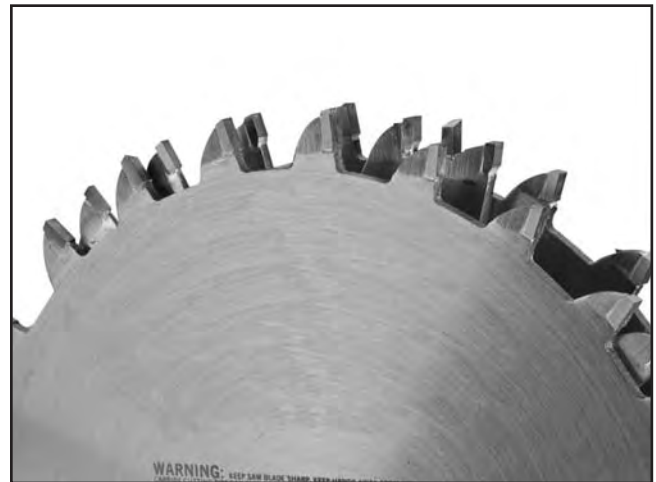

Figure 43. Stacked dado blade.
- **Stacked Dado Blade:** These dedicated dado cutting blade sets consist of up to 8 individual blades. Multiple cutters are "stacked" between two outside blades. The width of the dado is determined by the combination of cutters that are "stacked" together. The dado is cut in a single pass leaving a smooth and square channel in the face of the workpiece. Stacked dado blades are the most expensive option, but are worth considering if your projects require a lot of visible dado cuts. A stacked dado blade is shown in **Figure 43**.